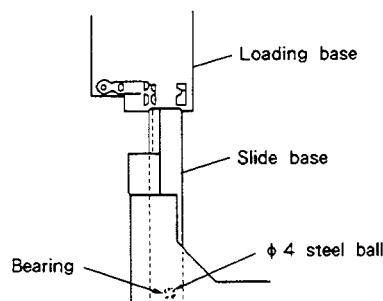

Fig. 9-9
<p>Re-mount the disc tray according to the following procedure when the grating adjustment is complete.</p> <ol style="list-style-type: none"> 1. Remove the disc and the spacer. 2. While lifting the clamp holder [marked ⑧ in Fig. 9-4] with the right hand, hold the tray in the left hand as indicated by ⑨ and slide the slide base into the hard resin fittings on the loading base as shown in Fig. 9-9 to reinsert the disc tray. At this time, be sure to hold the steel ball in place with the index finger of the left hand. Also, be careful that the front panel is not damaged by the slide base and steel ball's bearing (in the slide base) coming into contact with the panel. 3. Insert the slide base so that it fits into the two hard resin fittings at the rear of the loading base (see Fig. 9-10). 4. Insert the tray tightly.